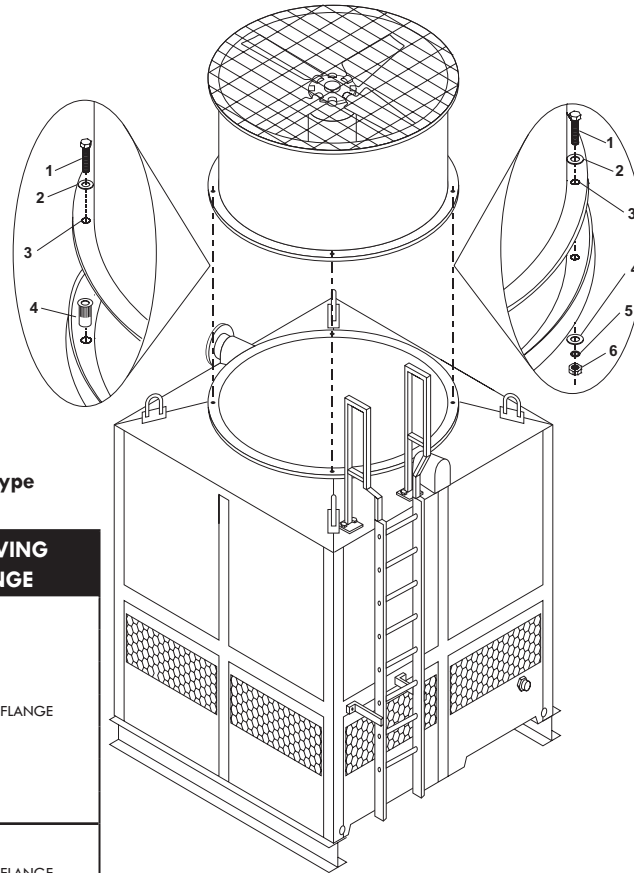

Figure A-7: Fan duct installation for single fan tower
F. Now place the fan duct on the receiving flange on top of the tower (see Figure A-7); make sure the bolt holes and the marks inside the fan duct and receiving flange are aligned (see Figure A-8). Secure it with the stainless steel nut and bolt sets supplied by REYMSA.